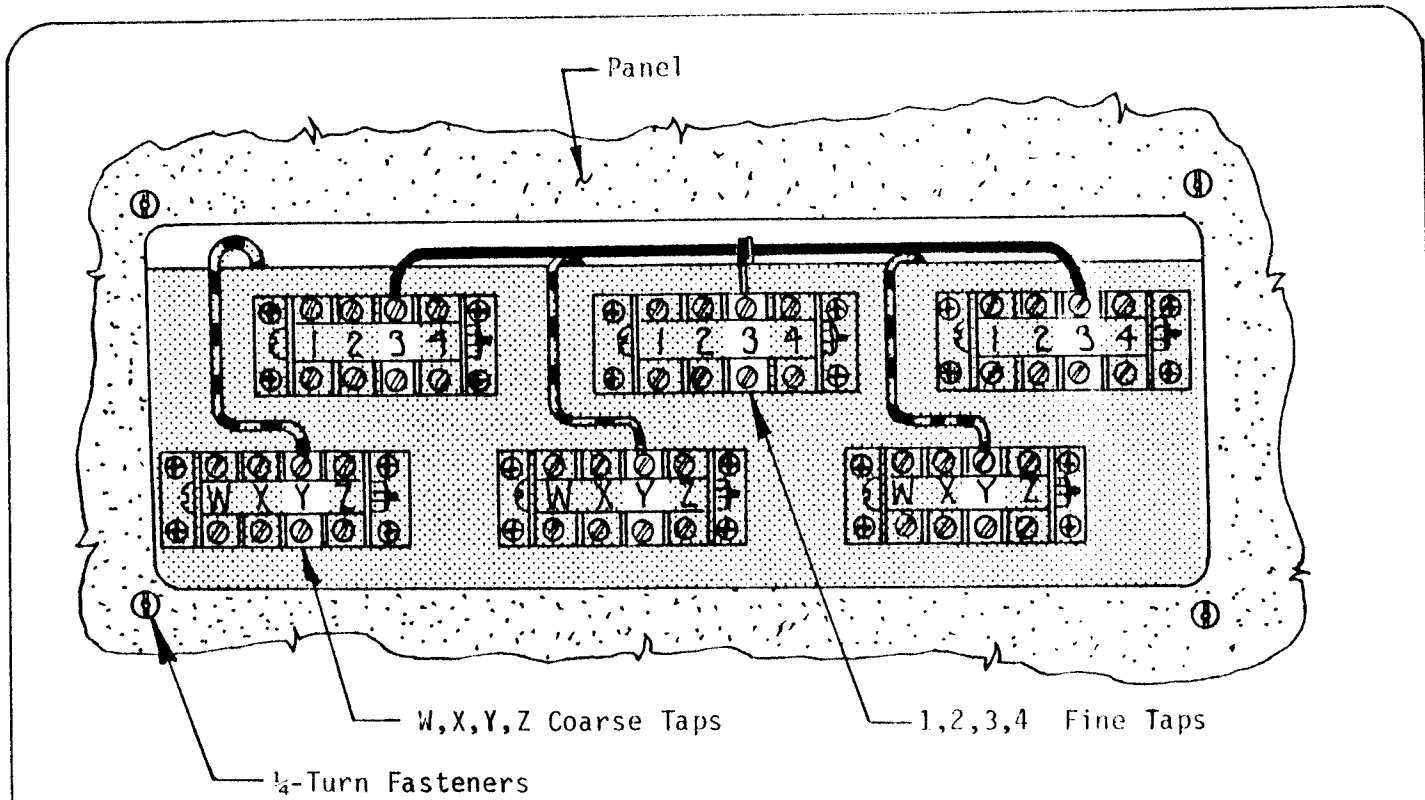

Figure 3-2. Voltage Tap Locations
- a. Remove front voltage tap access panel and locate voltage taps marked "W, X, Y, Z" and "1, 2, 3, 4." The "W, X, Y, Z" taps are for coarse adjustment, and the "1, 2, 3, 4" taps are for fine adjustment (see Figure 3-2).